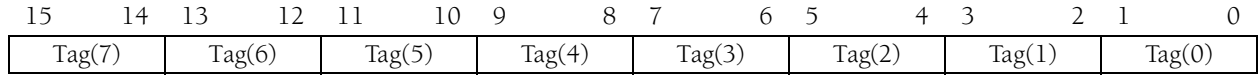

Figure 2-40. FPU Tag Word Register
FPU Tag Word Register. The 6x86MX CPU maintains a tag word register (Figure 2-40 (Page 2-87)) comprised of two bits for each physical data register. Tag Word fields assume one of four values depending on the contents of their associated data registers, Valid (00), Zero (01), Special (10), and Empty (11). Note: Denormal, Infinity, QNaN, SNaN and unsupported formats are tagged as “Special”. Tag values are maintained transparently by the 6x86MX CPU and are only available to the programmer indirectly through the FSTENV and FSAVE instructions.